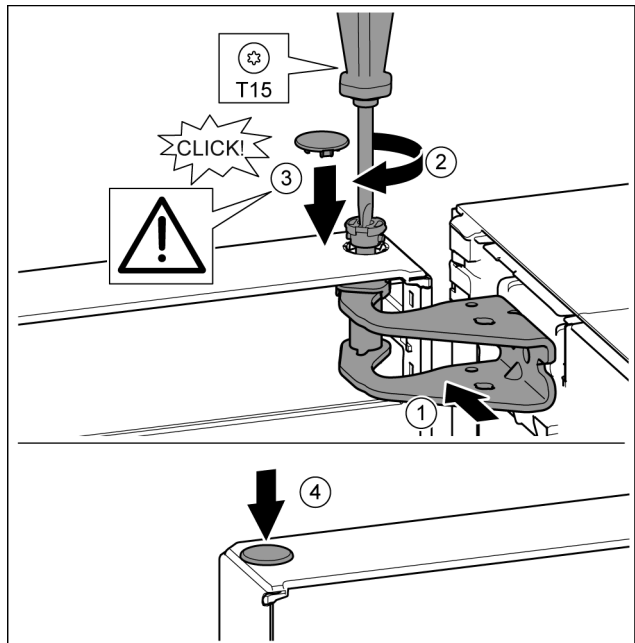

Fig. 24
- ▶ Align the top of the door with opening in the bearing bracket. Fig. 24 (1)
- ▶ Insert the bolt and tighten with a T15 screwdriver. Fig. 24 (2)
- ▶ Fit the protective cover to protect the door: Insert the protective cover and check that it is attached to the door. If not, insert the bolt fully. Fig. 24 (3)
- ▶ Insert the plugs. Fig. 24 (4)